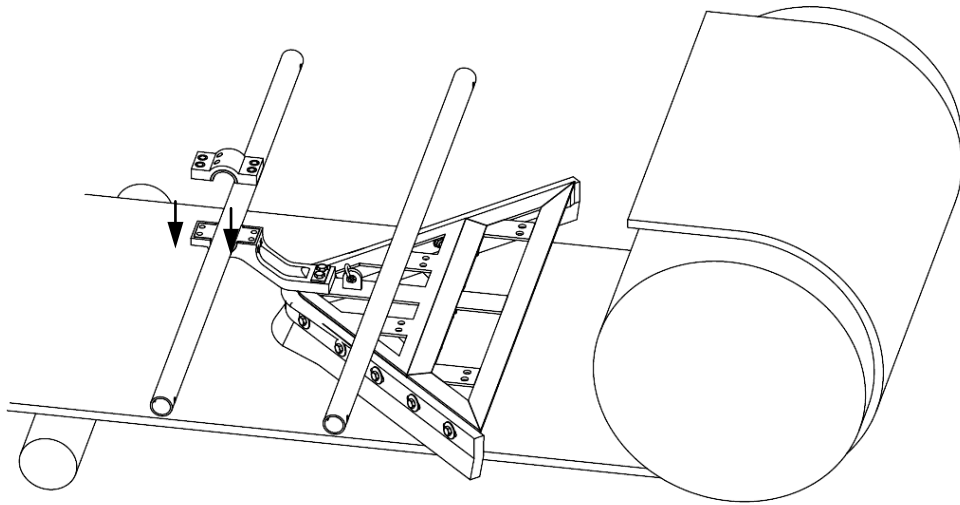

Figure 6
4. Position the clamping element of the torsion arm and clamp it in place as shown in Figure 6.